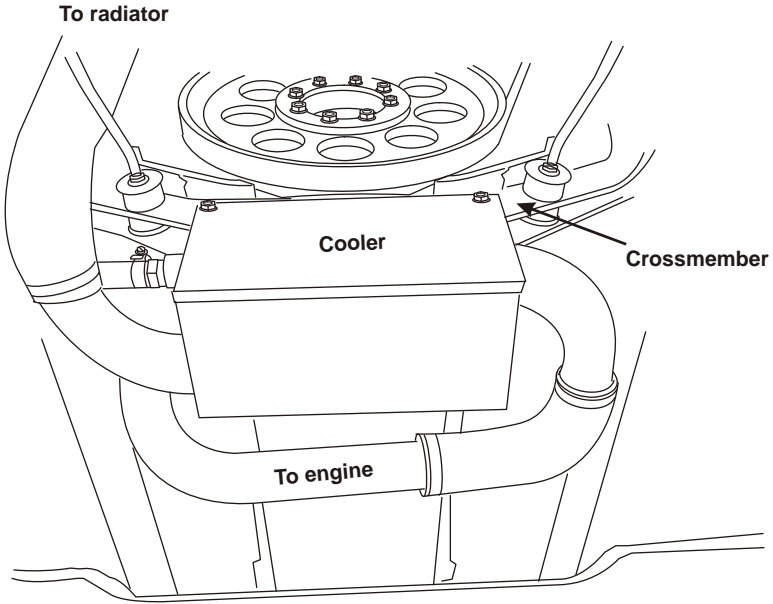

Figure 3.2
- Position the cooler on the forward part of the engine mount cross beam with the oil hose connections facing to the rear and align the holes in the cooler mounting bracket with the existing holes in the front of the cross beam (Figure 3.2).